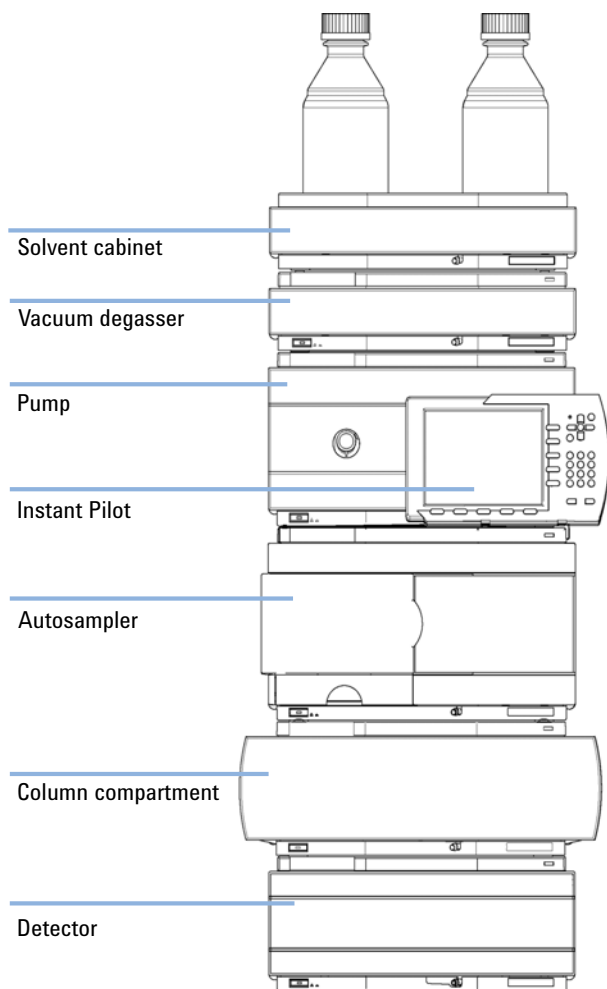
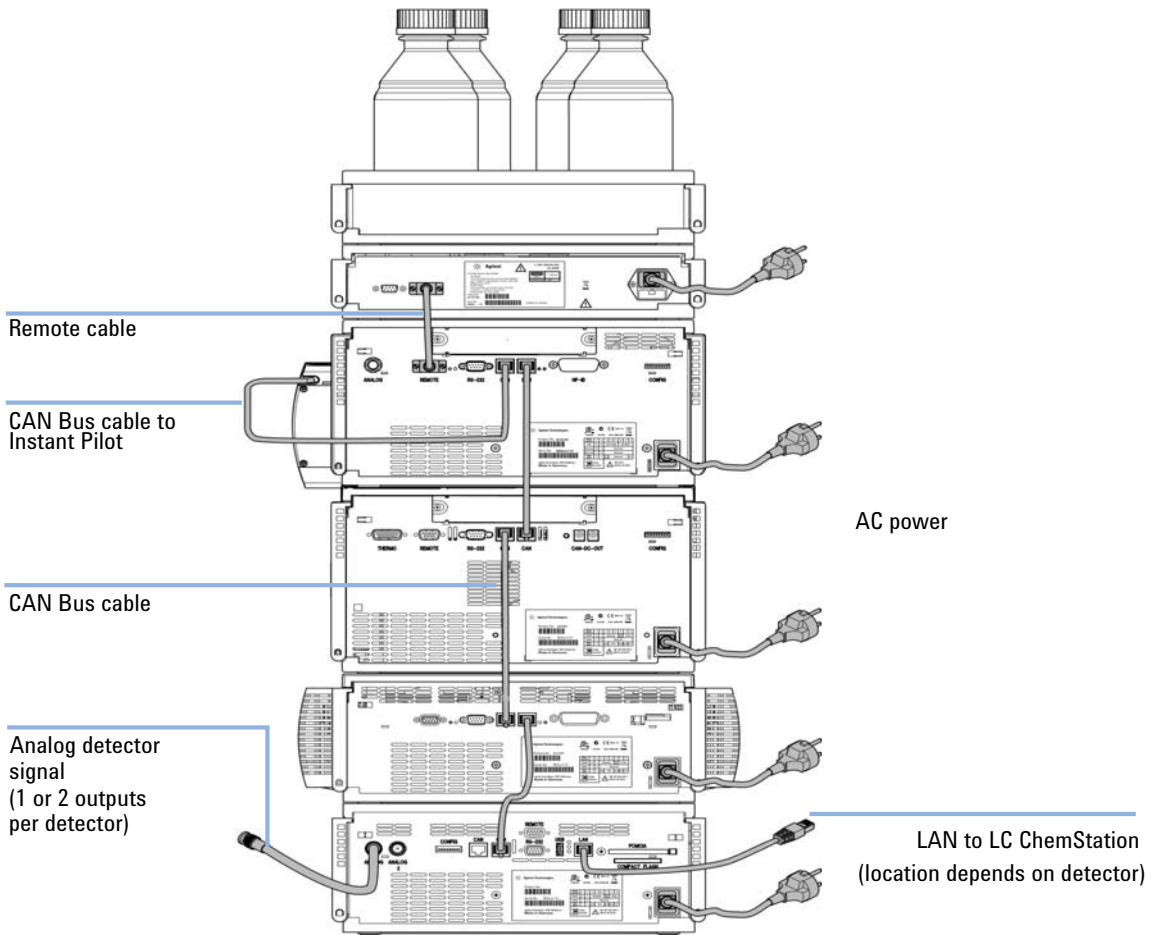

Figure 4 Recommended Stack Configuration for 1260 Infinity (Front View)
Figure 5 Recommended Stack Configuration for 1260 Infinity (Rear View)
Ensure optimum performance by installing the modules of the Agilent 1260 Infinity LC System in the following configuration (See Figure 4 on page 32 and Figure 5 on page 33). This configuration optimizes the flow path for minimum delay volume and minimizes the bench space required.
- 1 Place the individual modules in a stack configuration as shown in Figure 4 on page 32.
- 4 Connect the CAN cable to the CAN connector of the next module, see Figure 5 on page 33.
- 1 Place the vacuum degasser in the stack of modules as shown in Figure 4 on page 32.
- 4 Connect the APG cable to the APG remote connector of the pump, see Figure 5 on page 33.